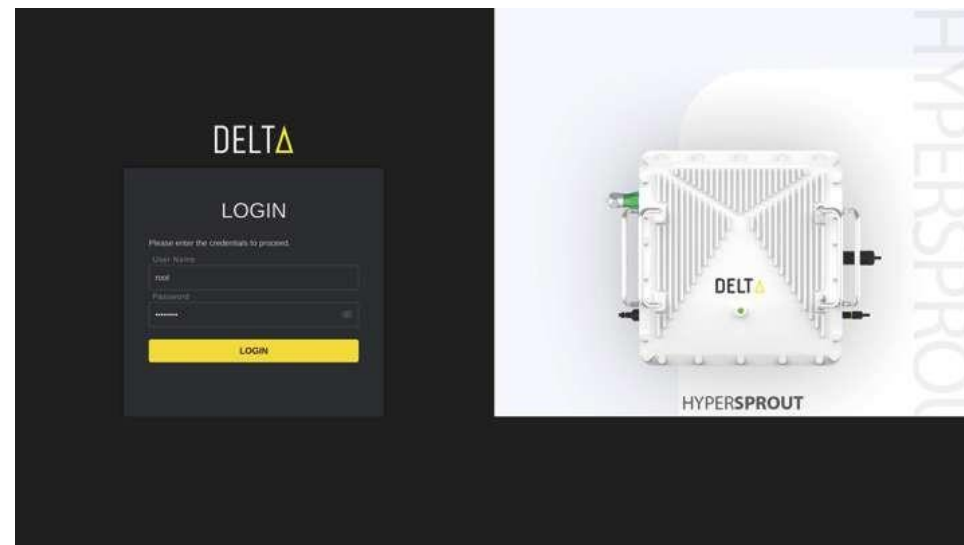

Figure 35: Login Page
- After giving the br-lan IP address, the browser will redirect to the login page as shown in *Figure 35*.